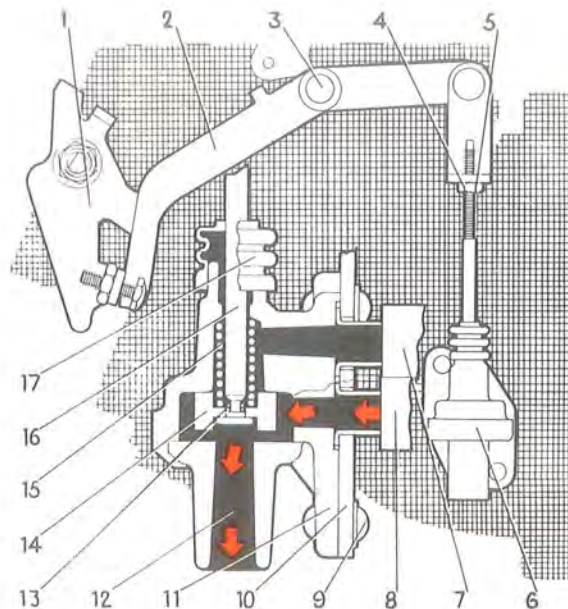

Fig. 2-64. Hot start valve, function, idling
The valve (4), which is known as the hot start valve, is to be found on all vehicles with twin carburettors. The difference between a valve used on a vehicle with or without a gas evaporite control unit is that in the latter case there is no hose connected to the outlet (12, Fig. 2-64), and the fumes are led directly out into the atmosphere when the engine is switched off or idling.
When the throttle is at idling position, the lever (1), Fig. 2-64). Presses against the valve control (2). The piston (14) is thereby lifted to its upper position by the